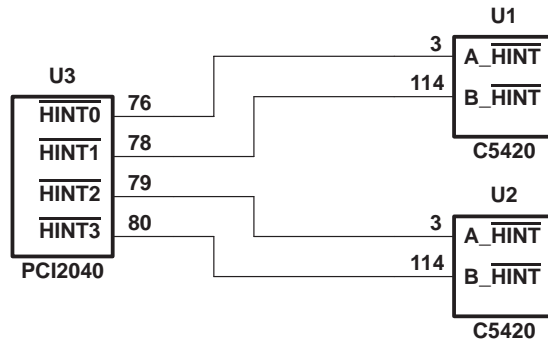

Figure 3. Two or Less C5420s Behind PCI2040
- If there are two or less C5420s, you can connect  $\overline{\text{HINT0}}$  to A\_ $\overline{\text{HINT}}$  and  $\overline{\text{HINT1}}$  to B\_ $\overline{\text{HINT}}$  to the first C5420. You can connect the second C5420 interrupts (A\_ $\overline{\text{HINT}}$  and B\_ $\overline{\text{HINT}}$ ) to PCI2040's  $\overline{\text{HINT2}}$  and  $\overline{\text{HINT3}}$ , respectively (see Figure 3). This method corresponds with memory map 0.